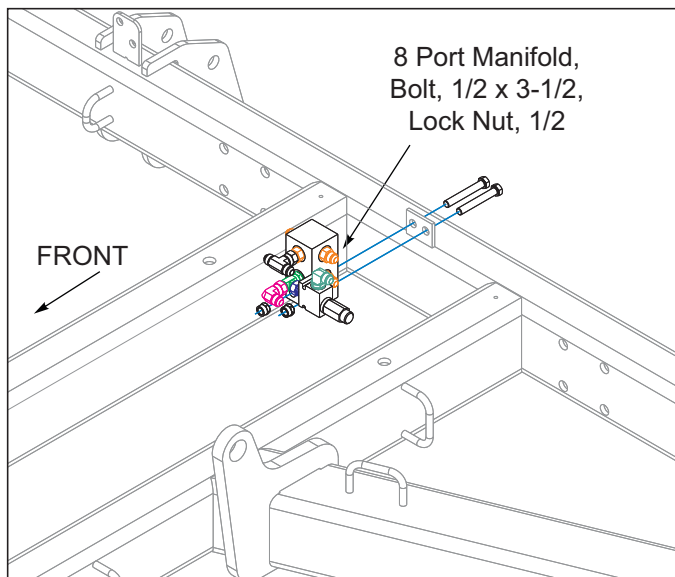

Figure 3-9: 8 Port Manifold 7531-26'-29'
5. Models 7531-26'-29' install the 8 port manifold, bulkhead mount in position shown, **See Figure 3-9**, using 1/2 x 4 bolts and 1/2 lock nuts.